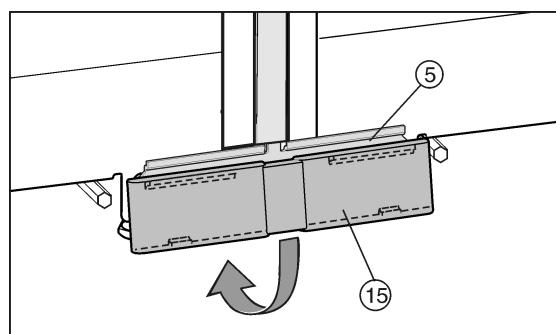

Fig. 28
- Position the lower cover Fig. 28 (15) from above onto the connecting panel Fig. 28 (5) and snap it down into place.